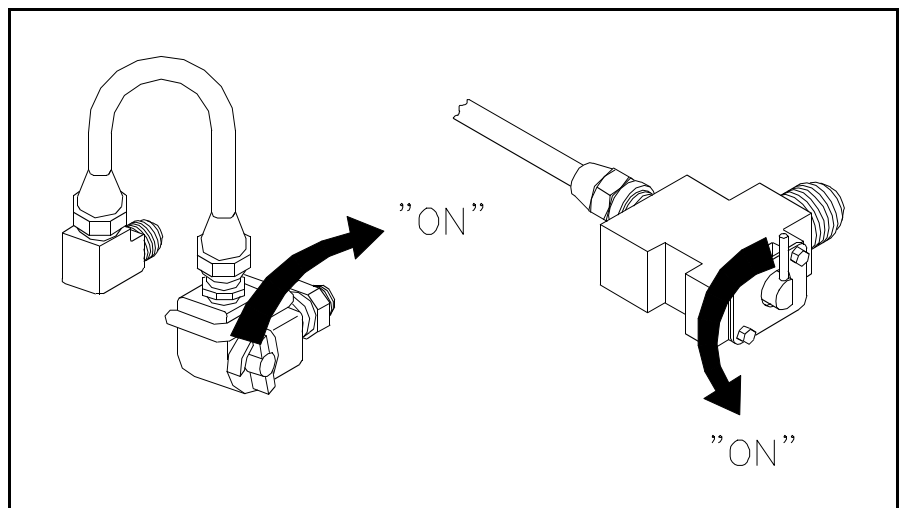

Figure 4.31 Manual Valve (Alternate Versions)
- 12. Check the manual shut-off valve to insure it is in the "ON" position. See Figure 4.31.